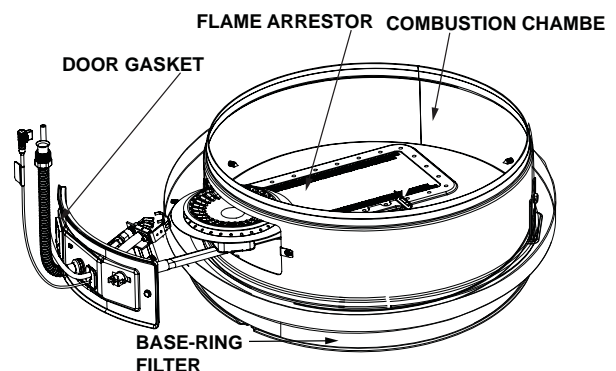

FIGURE 33.
3. Insert the manifold/burner assembly into the burner compartment, making sure that the tip of the manifold tube engages in the slot of the bracket inside the combustion chamber (Figures 33 & 34).